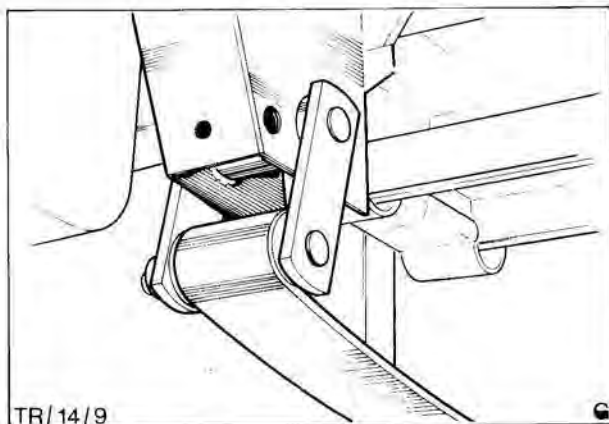

Fig. 9. Rear spring shackle plate
8. Remove two nuts from each rear shackle plate on either side and remove rear shackle plate, Fig. 9.